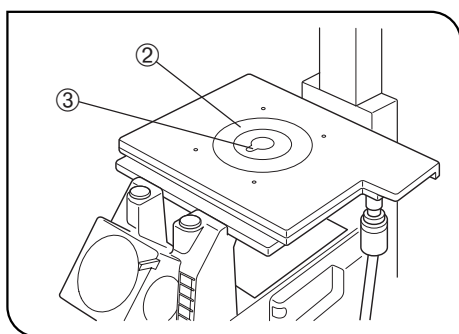

Fig. 85
3. Fit the stage center plate ② into the stage. (Fig. 85)
Ⓞ To facilitate confirmation of the objective front lens position and application of oil for oil immersion objectives, rotate the stage center plate so that the keyhole ③ will be facing the front. (Fig. 85)